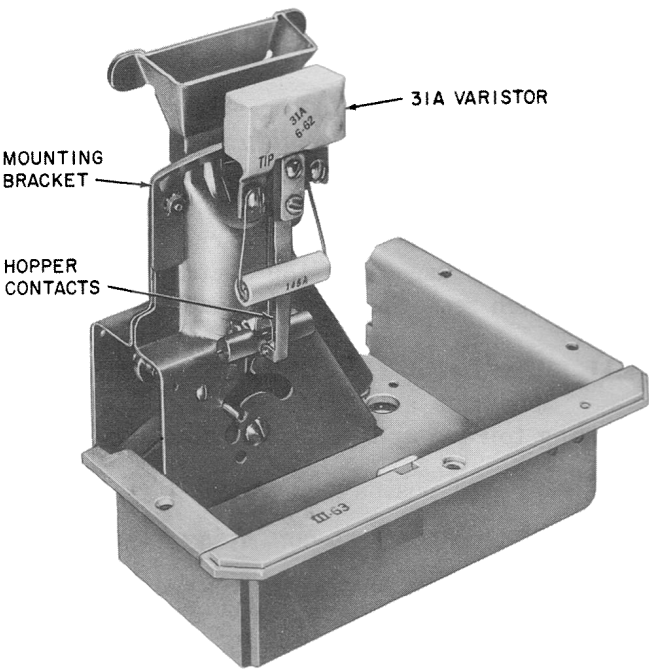

Fig. 28 — Dial Postpay (CDO)
- Dial postpay, no coin relay (Fig. 28).